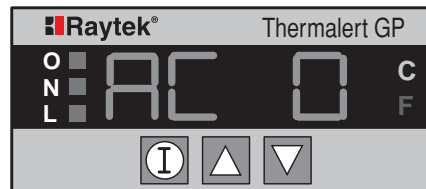

Figure 18: Ambient Temperature Compensation Display
2. Press the  button several times until the Ambient Compensation indicator displays (Figure 18). The display shows either a “0” or “1” (default= “0” - Off).